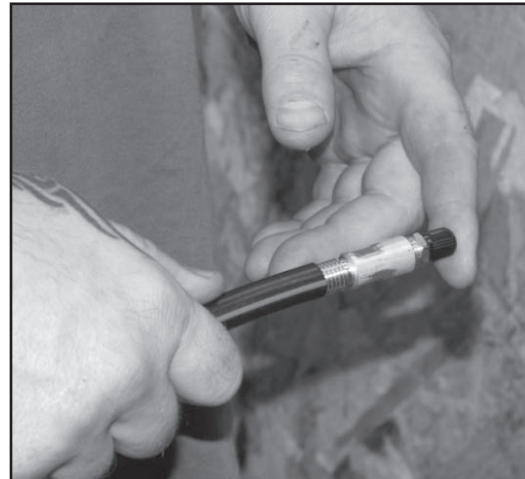

Figure 30
F. Install Duct Fill Plug into the beginning end (inside end) of Micro Duct (Figure 30)